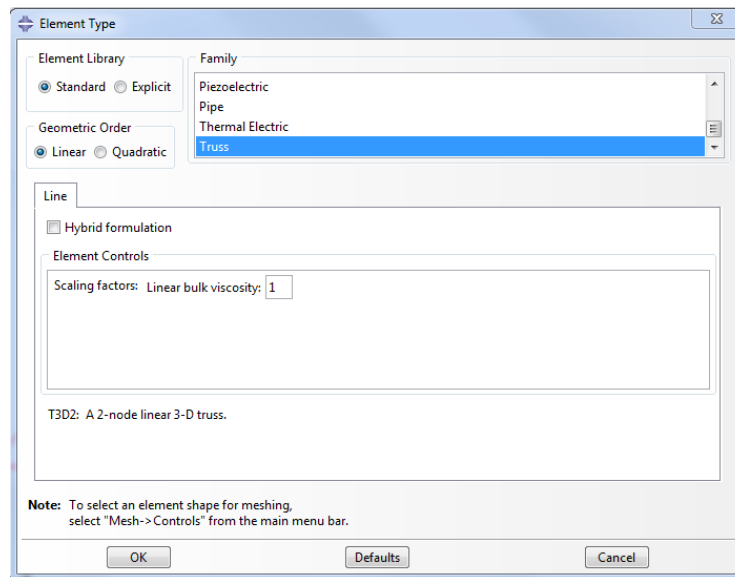

Figure 15. Element Type (Truss)
- Click **Done**. You will be immediately prompted by the **Element Type** dialog box. Under the **Family** category scroll down and choose **Truss**. Your **Element type** dialog box should look identical to Figure 15.